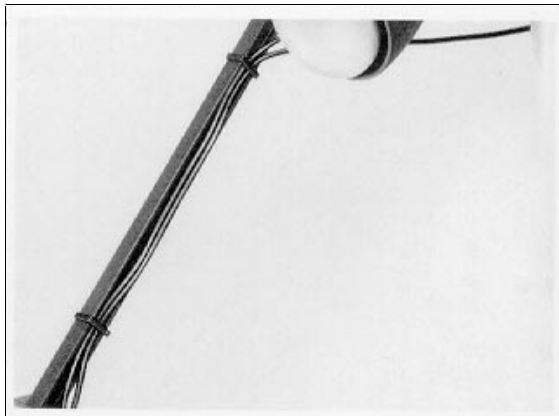

Figure 2-44. Dressing Electric Cords
e. Run the electric cords down the side of the lamp arm and clamp them at the top and bottom of the arm, using the clips provided (figure 2-44).